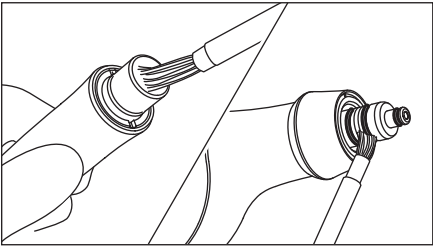

Fig. 11
- 1) Carefully clean the inside of the joint section of the handpiece and the O-ring section of the powder case with the attached cleaning brush. (Fig. 11)